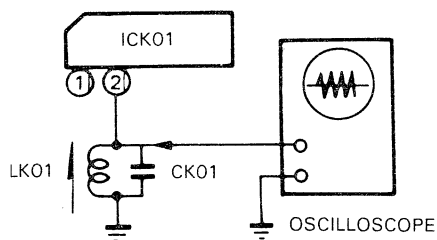

Figure 15. Equipment Connections
2. Connect an oscilloscope across CK01. (See Figure 15.)